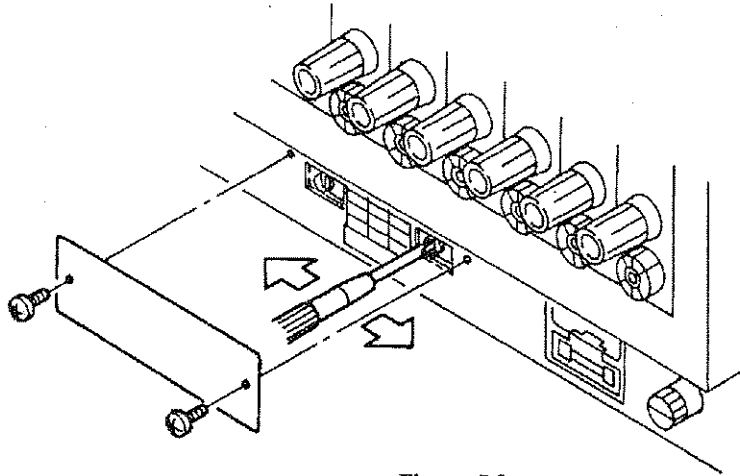

Figure 7.3
- (1) Remove the plate from the power supply voltage select section on the rear panel. (Refer to Fig. 7.3.)